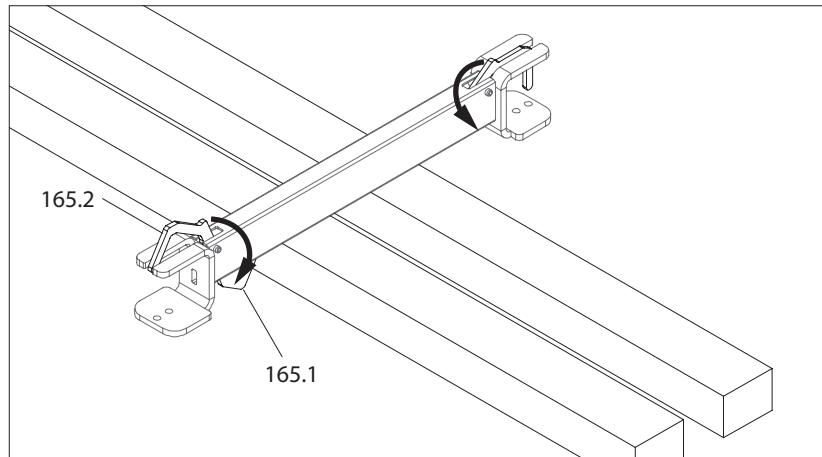

Fig. A7.04a
1. Turn the deck traverse to the head side so that the grips (165.1) of the drop ledger (165.2) protrude. (Fig. A7.04a)